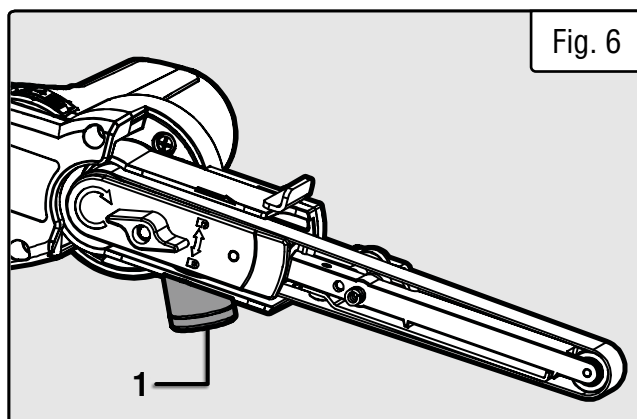

Fig. 6
1. Connect a dust extractor hose or dust bag with an inner diameter of 15/16 in. - 1 in. (23.8mm - 25.4mm) and an outer diameter of 5/8 in. (16mm) to the dust port on the file sander (Fig. 6 - 1). A hose clamp may be required.